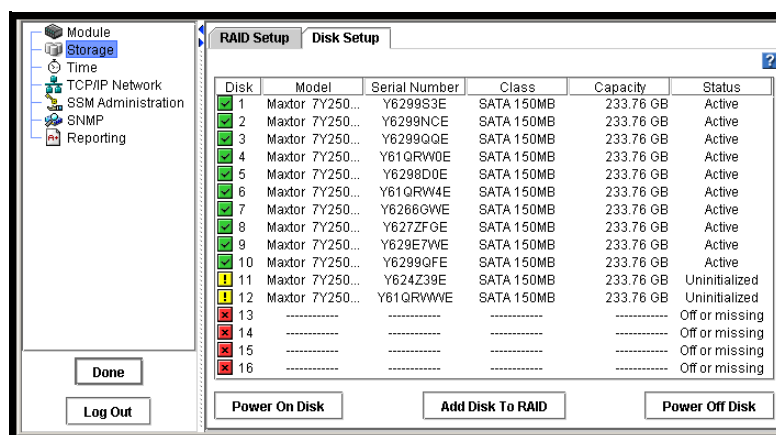
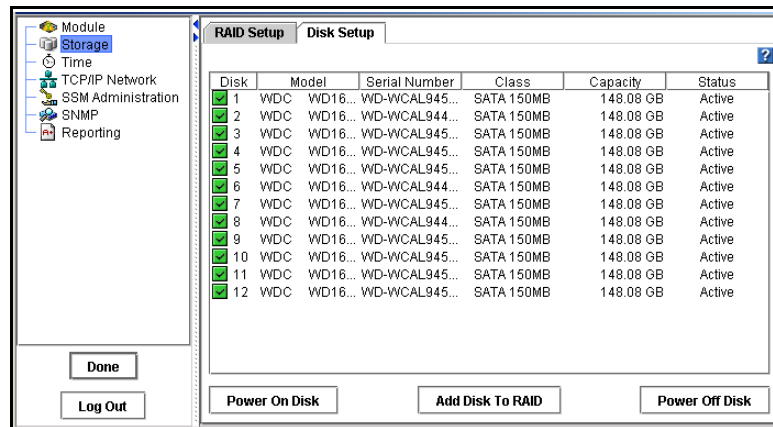

Figure 63. Viewing the Disk Setup Tab in the Intel® Storage System SSR316MJ2
Figure 65. Viewing the Disk Setup Tab in an Intel® Storage System SSR212MA
You can view the status of the disks in the SSM on the Disk Setup tab, shown in Figure 63 on page 81 and Figure 65 on page 82. The RAID states are reported on the RAID Setup tab, as shown in Figure 53 on page 68.
3. Click the Disk Setup tab to bring it to the front, as shown in Figure 63.